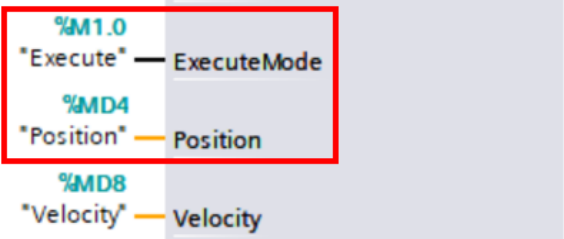

Figure 2-52 Related pins
2. Set FB284 ModePos to 6 to enter program block control. FB284 position now represents the selected program block. Select the program block to be run and send a rising edge signal to ExecuteMode to activate the selected block. as shown in "Figure 2-52 " on page 62 .